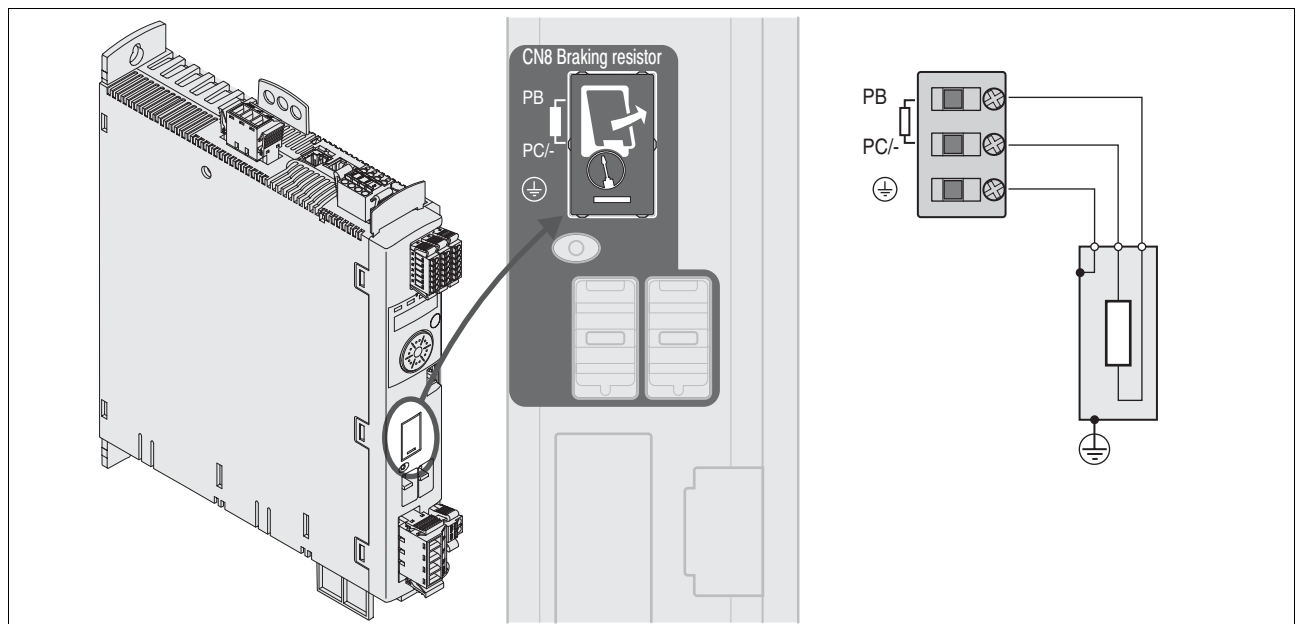

Figure 6.6 Wiring diagram external braking resistor
- ▶ Ground the ground connection (PE) of the braking resistor.
- ▶ Connect the external braking resistor to the device, see Figure 6.6. Note the tightening torque specified for the terminal screws.